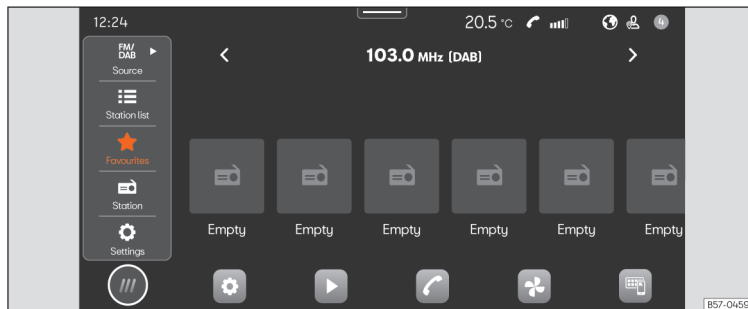

Fig. 164 Schematic diagram: Radio view.
- Press **HOME** > >>> **Fig. 164**.